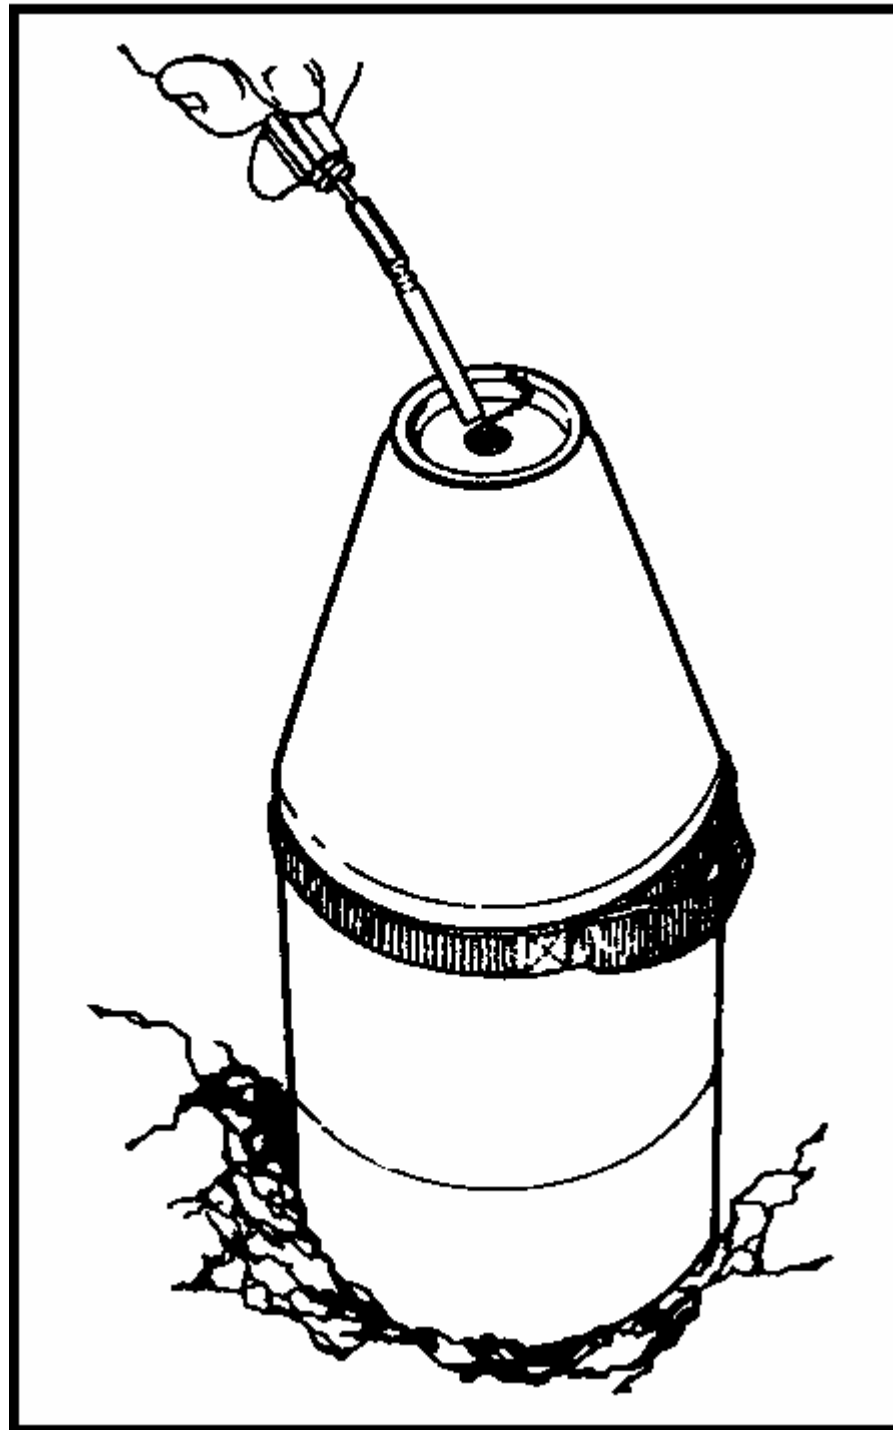

Figure 052-193-1311-18
- i. Insert the blasting cap into the threaded cap well of the shape charge. Secure the blasting cap by tightening the priming adapter into the threaded cap well (Figure 052-193-1311-18).